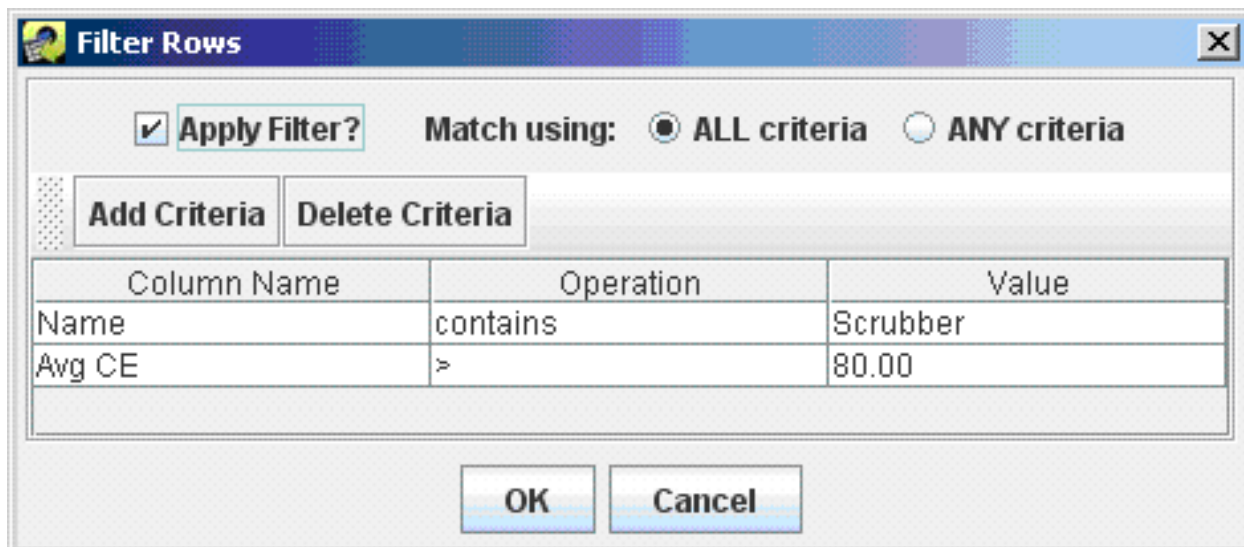
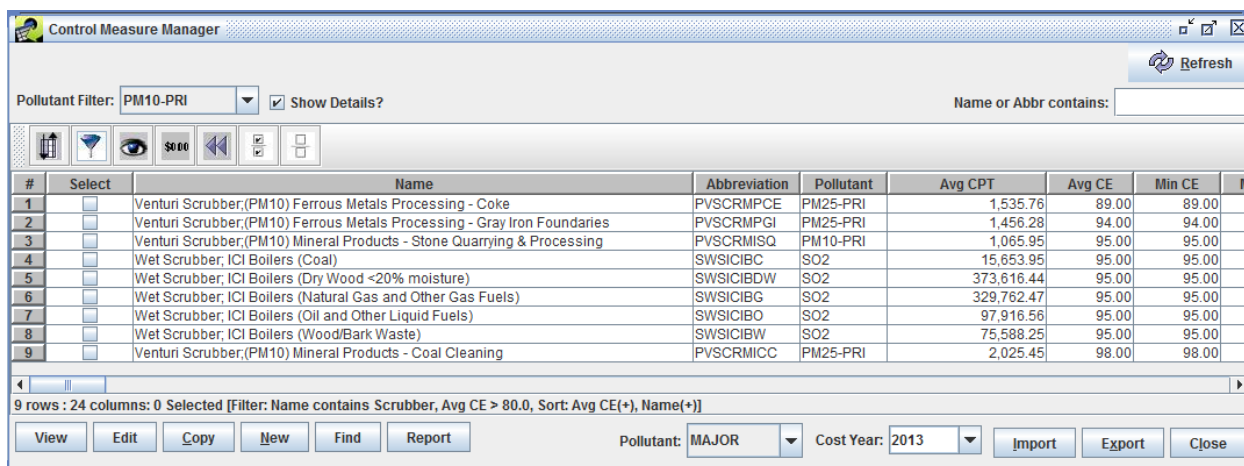

Figure 3.5: Filter Rows Dialog
Figure 3.6: Control Measure Manager with Filter Applied
Step 1-10: Apply Filters to Control Measure Table. To use a filter to limit the measures shown, click the button on the toolbar that looks like a filter: . When you do this the “Filter Rows” dialog appears (Figure: 3.5).
Click OK to close the **Filter Rows** dialog and to apply the selected filter. Figure 3.6 shows the table that results from the selections shown in Figure 3.5. Notice that the currently applied filter is reflected in the line under the horizontal scrollbar of the table.